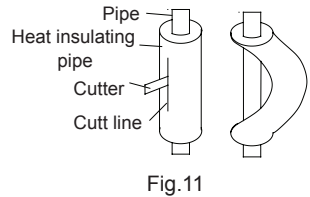

Fig.11
(2) Do not bend the pipes in an angle more than 90°.
(3) When pipes are repeatedly bent or stretched, the material will harden, making it difficult to bend or stretch them any more. Do not bend or stretch the pipes more than three times.
(4) When bending the pipe, do not bend it as is. The pipe will be collapsed. In this case, cut the heat insulating pipe with a sharp cutter as shown in Fig.11, and bend it after exposing the pipe. After bending the pipe as you want, be sure to put the heat insulating pipe back on the pipe, and secure it with tape.